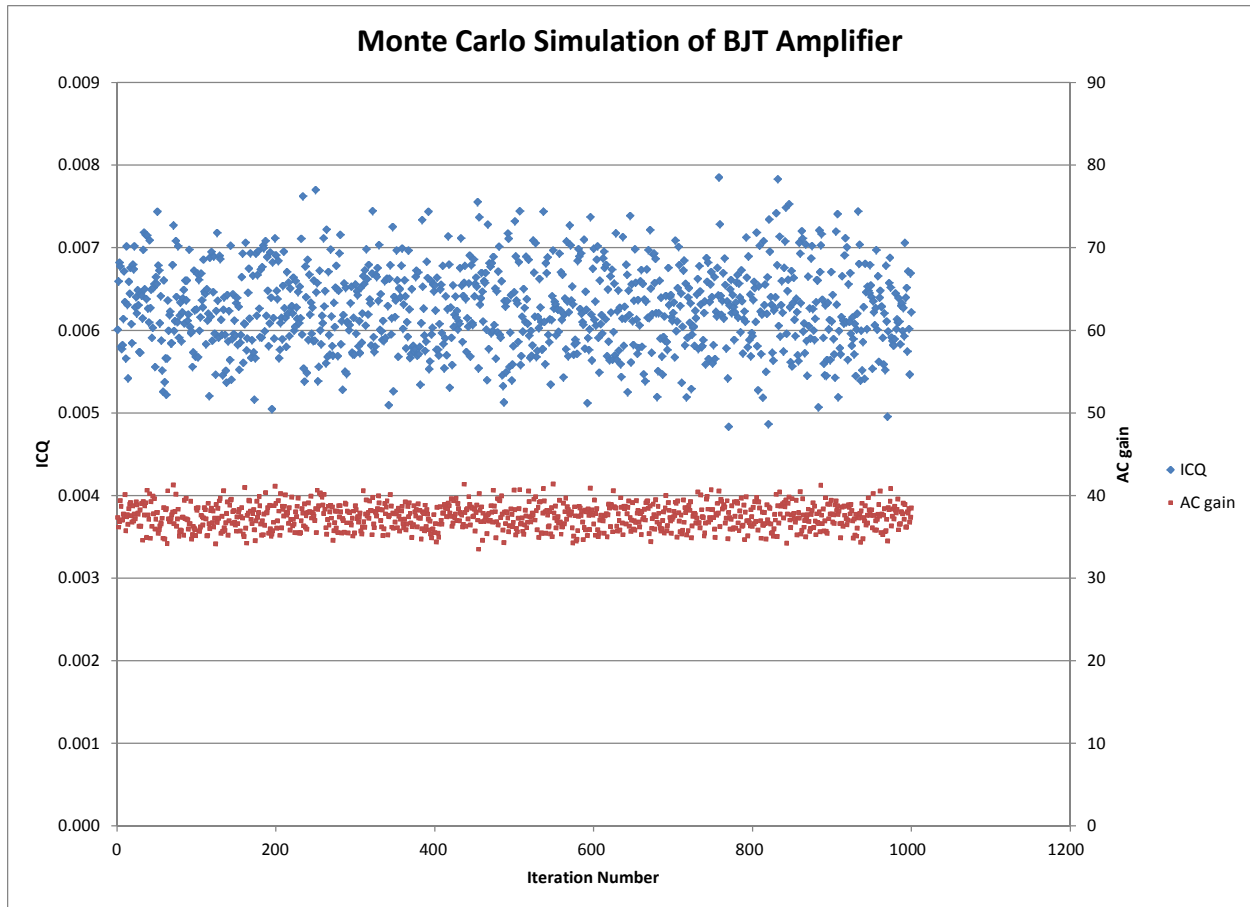

Figure 2: Monte Carlo Simulation of BJT Amplifier
5. Plot the iteration sequence of ICQ and AC gain as shown in Figure 2 (of a different problem). You can combine the plots as shown or use separate plots – your choice.